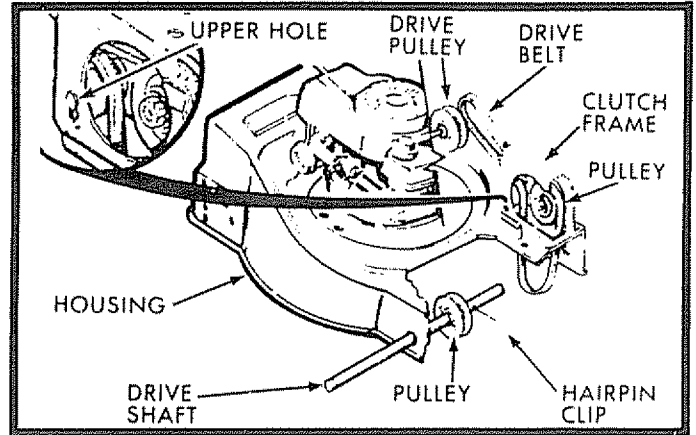

FIG. 13
- Remove belt from drive pulley (See Fig. 13).
- Take hairpin out of left side of drive shaft. While holding pulley slide shaft to the right until you can pull belt out of opening in housing (See Fig. 13). Keep hairpin for reuse.
- Pull belt free from pulley and take out of clutch frame (See Fig. 13).
If the clutch lever has reached the top of the slot in the clutch frame and the belt is still loose, move pulley to upper hole in clutch frame (See Fig. 13) and repeat steps 1 through 4 above.